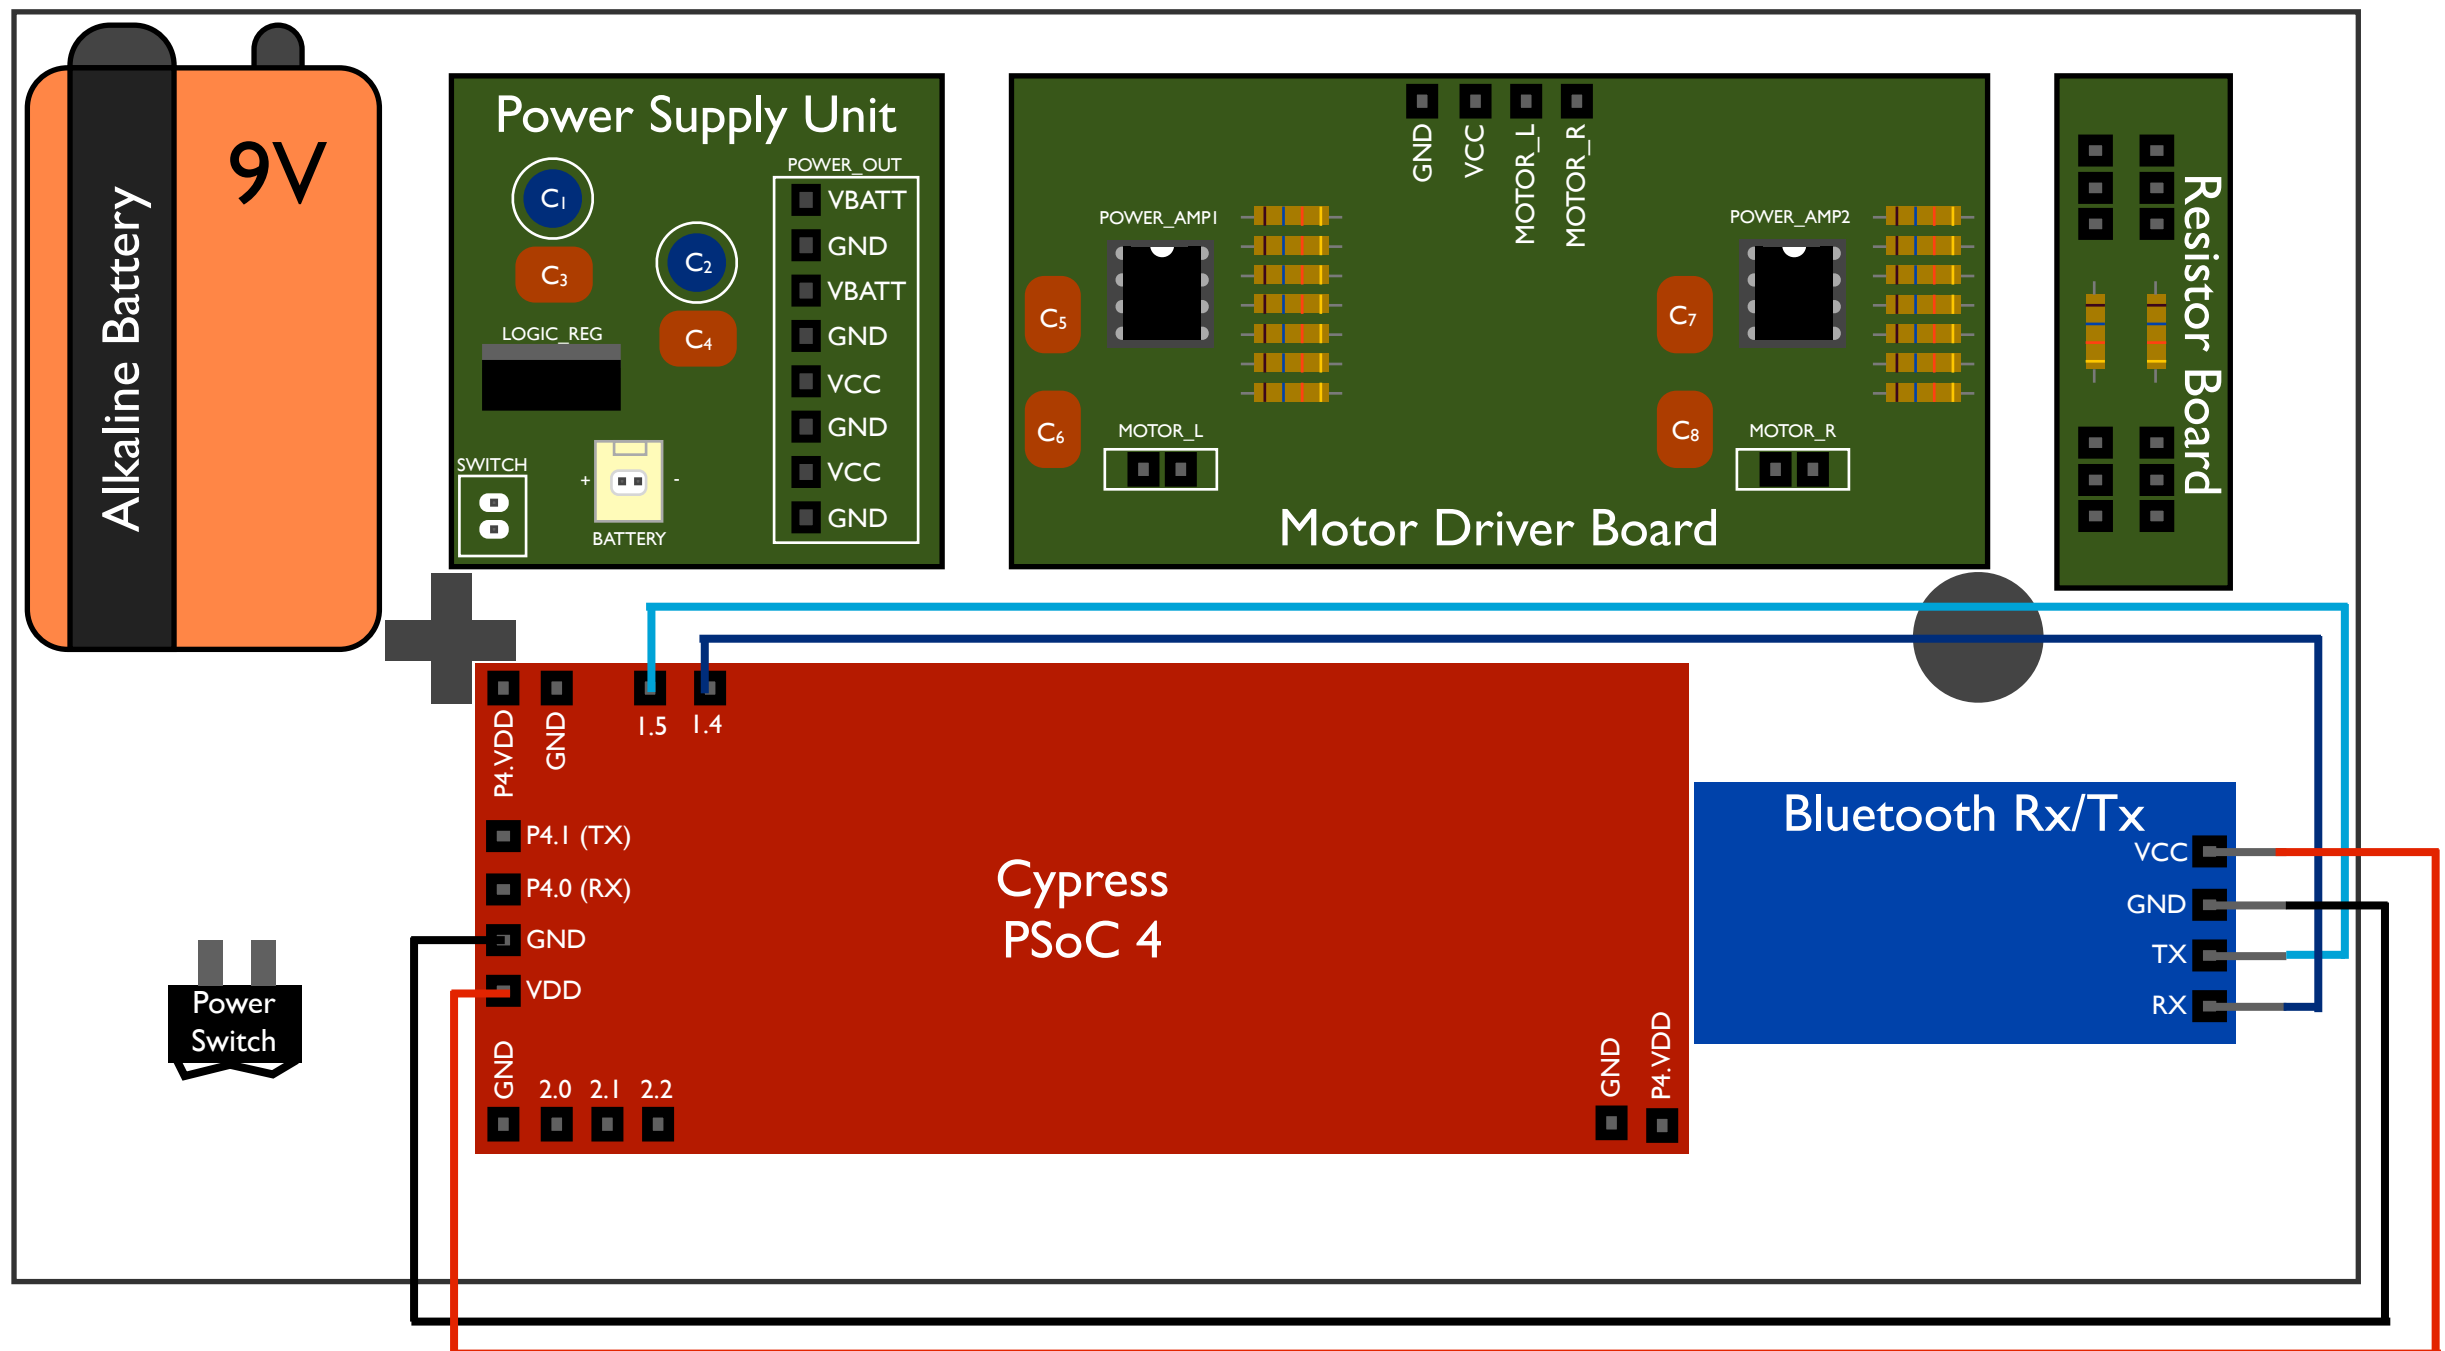

Figure 6. Connecting PSoC and Bluetooth Rx/Tx, with two blue jumper wires, one black jumper wire, and one red jumper wire
6. Connect PSoC and Bluetooth Rx/Tx (Figure 6)